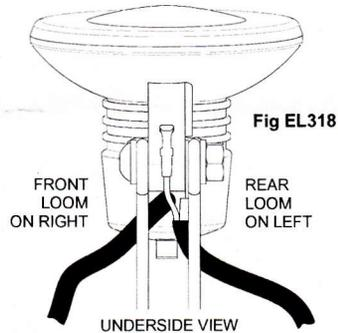

Fig EL318
Holding the lamp locally, push-on the 90 degree live connector firmly onto the tab so that it naturally trails rearwards. Gently separate the bracket arms and manoeuvre the lamp into position sandwiched between the lamp body and the inside of the left hand bracket arm. The eyelet sits better when the offset crimped portion is facing inwards (fig EL318). Pass bolt (S) through washer (W) and through the bracket and lamp from the right hand side.